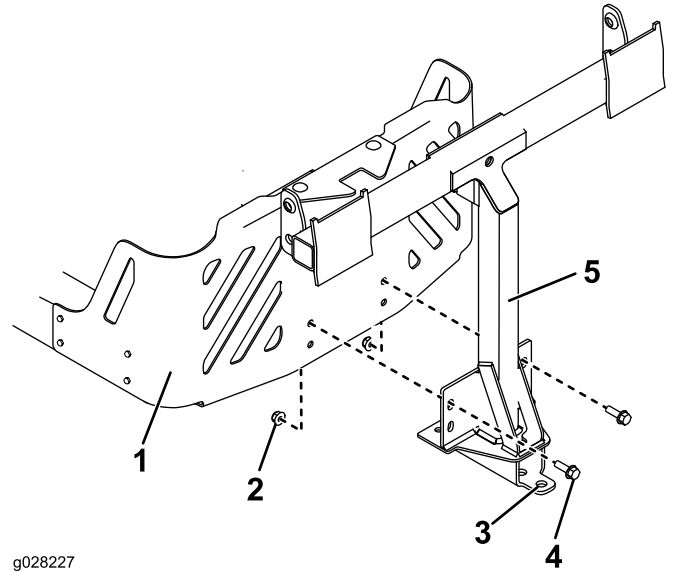

Figure 11
2. Install the pivot frame to the machine frame as shown in Figure 11. Secure the pivot frame to